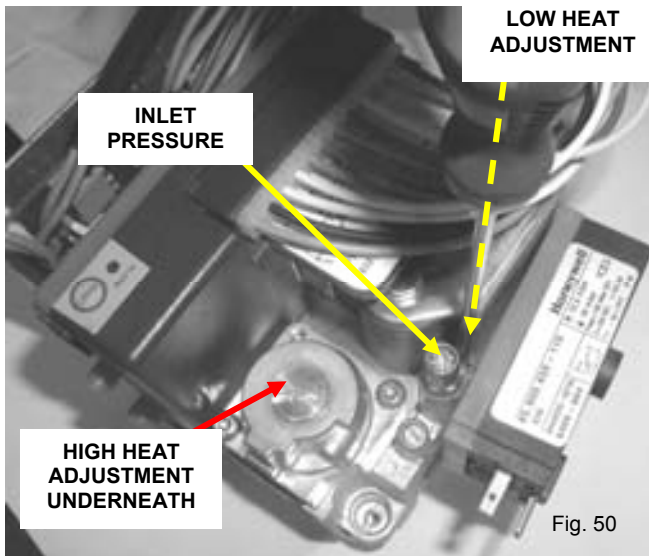

Fig. 50
- Place the tube of the “accurate” manometer on the **Inlet** pressure port (**Figure 50**) of the Gas Regulating Valve after having loosened the screw by one turn